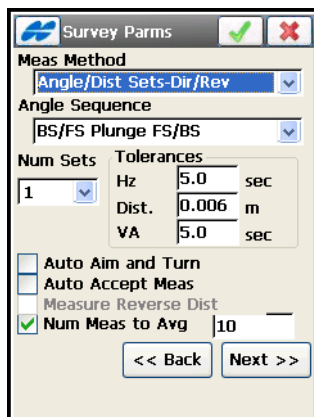

Figure 4-79. Survey Params
9. On the **Survey Params** screen, set the method for performing measurements and tap **Next** (Figure 4-79 on page 4-62).